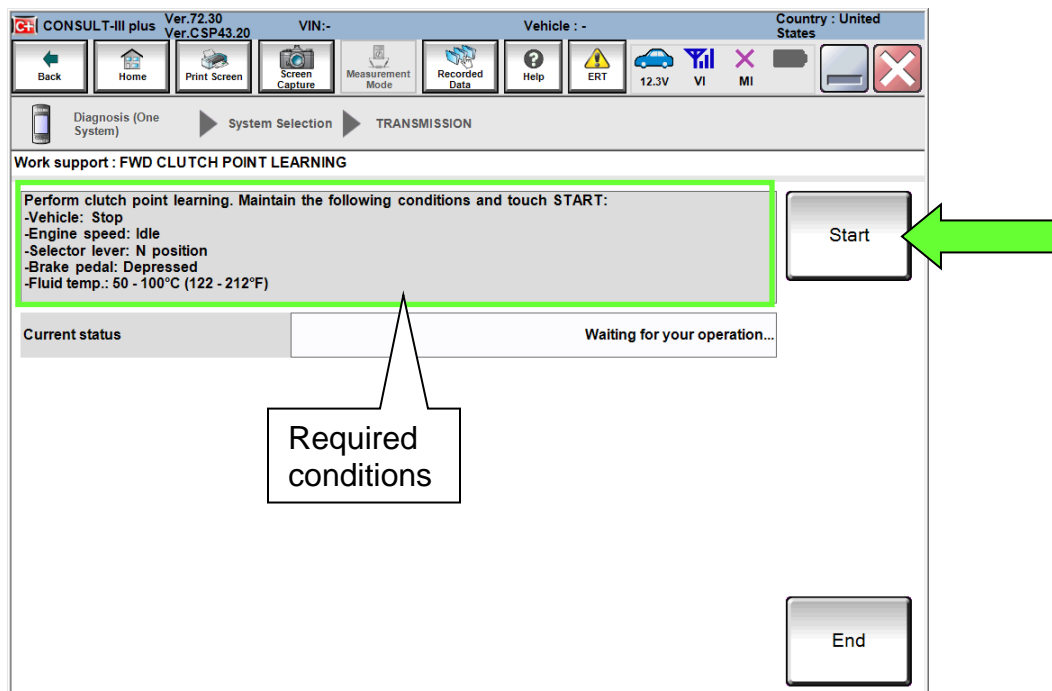

Figure 24J
- Confirm that all of the conditions indicated in Figure 24J are being met.
17. While maintaining all conditions shown in Figure 24J and the Current status indicates EXECUTING, shift the CVT into **R** and then wait until the Current status indicates COMPLETED.